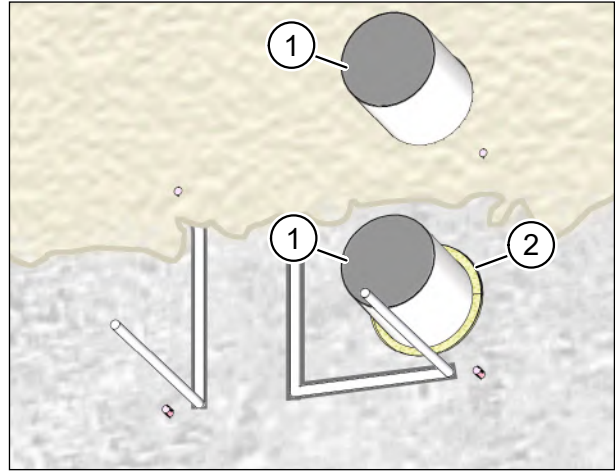

Fig. 27: Plastering the internal wall
- ▶ Before plastering, close off both ends of the ventilation pipes with adhesive tape (item 1 in Fig. 27) or another suitable material.
- ▶ Trim the expanding foam (item 2 in Fig. 27) flush with the unplastered wall.